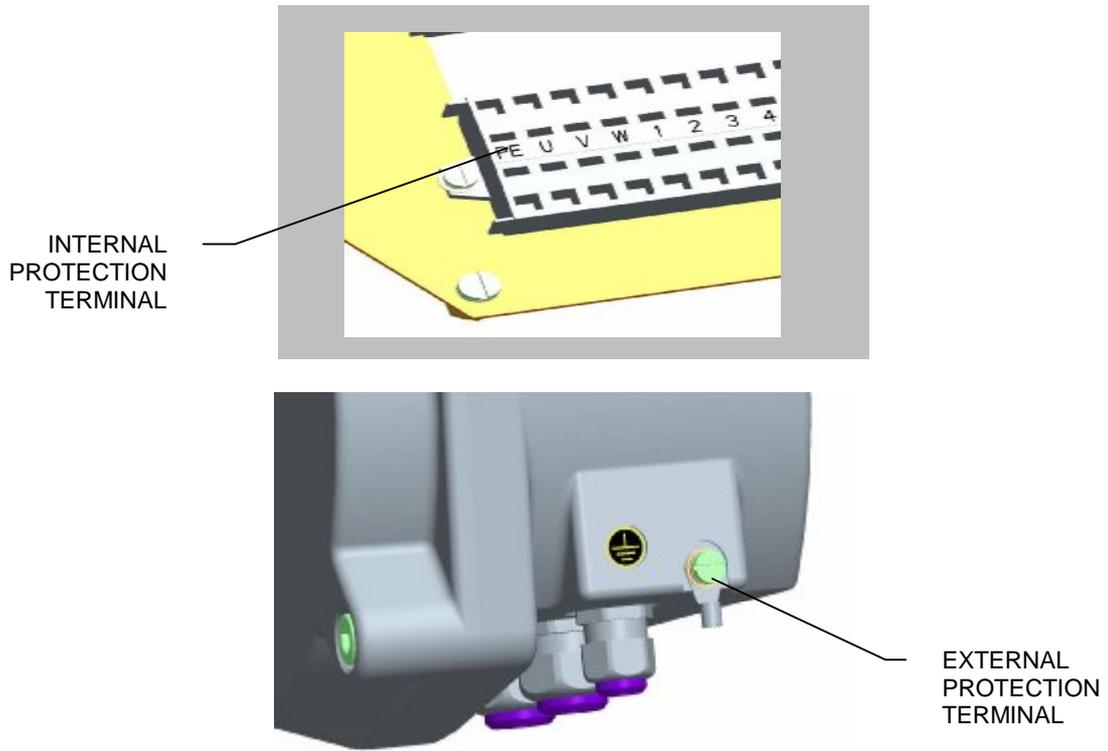

Fig.4a
- for safety operation of the actuator use EA be unavoidable connect external and internal ground terminal. The position of the external and internal ground terminal according to version EA can be seen in fig. 4 and fig.4a. For forcing - in wires in external ground terminal be needed use pliers HP3 for insulated eyelet (firm CEMBRE).